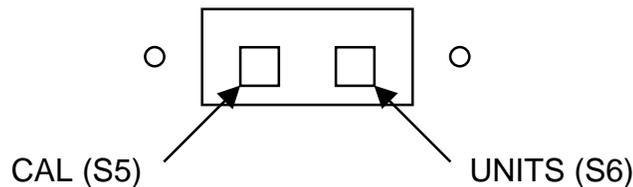

Fig. 4: Quick Access Panel
The Calibration button (S5), located on main PC. Board (Fig. 4), can be accessed by removing the scale platter and access cover. There are no zero jumpers, span jumpers, buttons or pots to adjust scale calibration.
- 1) Enter Calibration mode by pressing the CAL button (S1 or S5) (see Fig. 4). Press and release the UNITS button (S2 or S6) until "**CAL 0**" appears on the display. Place scale platter back on top of platform.
To enter the Calibration Setup Menu. Remove the two screws mounting access cover. Once opened, press the CAL button (S5) location on main PC board (see Fig. 4). The indicator will display the first menu parameter, "**CAL 50**" (Where 50 can be any valid capacity).